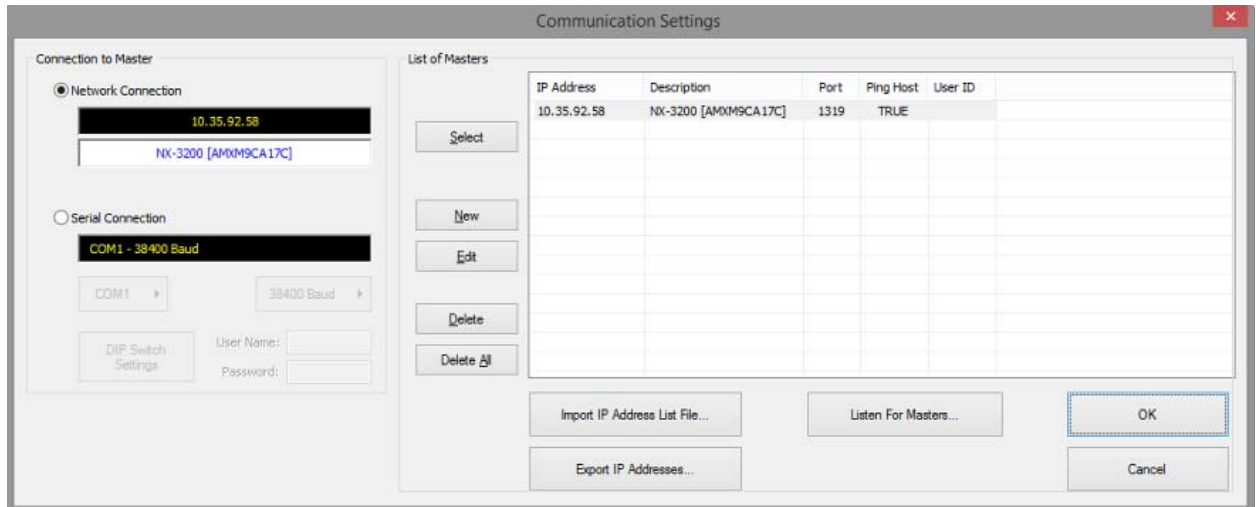

FIG. 10 Communication Settings dialog
RPMLoader supports two types of connection to the Master Controller for file transfers: Network (TCP/IP) and Serial (RS-232). Communication Settings are configured in the *Communication Settings* dialog (FIG. 10):
- Select **Communication Settings** in the *Start Tasks* window to open the *Communication Settings* dialog (see FIG. 10 on page 11). Alternatively, this dialog can be opened via the Communication Settings icon in the Project Window, or the Options Menu, or the Toolbar.